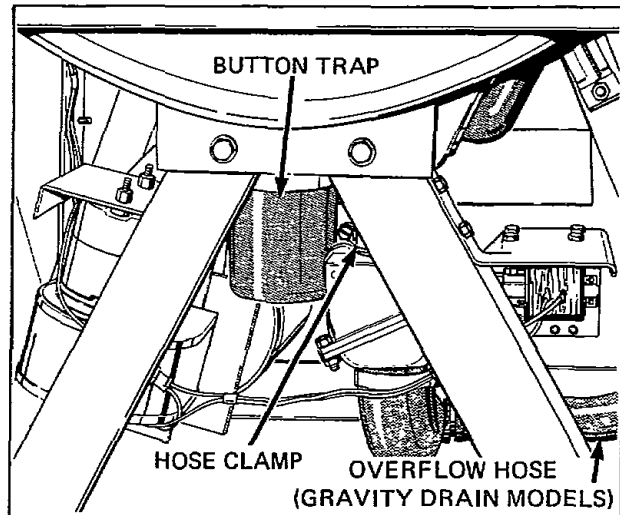

Figure 37
- k. Remove button trap and loosen hose clamp on tub outlet, *Figure 37*.
- l. Gravity Drain Models: Disconnect overflow hose from drain hose tee, *Figure 37*.